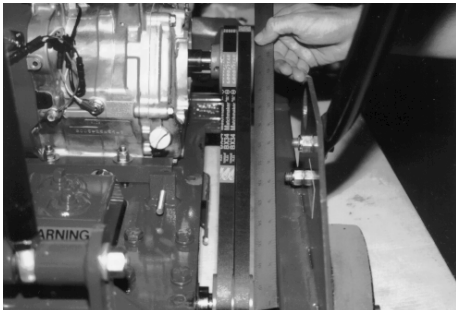

FIGURE 37
5) With the same wrenches, rotate the engine take-up capscrews counterclockwise to loosen the V-belts and allow the engine/electric motor to slide toward the operator handle. FIGURE 37.